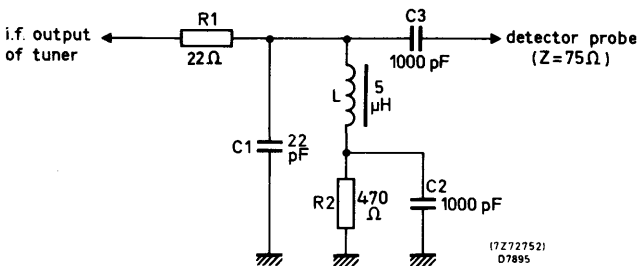

Fig. 6
Note: I. F. output of the tuner terminated with a modified circuit of Fig. 6, i. e. a 100 pF capacitor is connected in parallel with C1, R1 is short circuited, tuning voltage is 15 V.
1) I. F. output of the tuner terminated with the circuit shown in Fig. 6; tuning voltage 15 V.
Note: I. F. output of the tuner terminated with a modified circuit of Fig. 6, i. e. a 100 pF capacitor is connected in parallel with C1, R1 is short circuited; tuning voltage is 15 V.
The tuner needs normal supply voltages and a tuning voltage of 15 V; the i. f. output should be loaded with the circuit shown in Fig. 6.
The i.f. output of the tuner should be terminated with the RC-circuit given in Fig. 6.